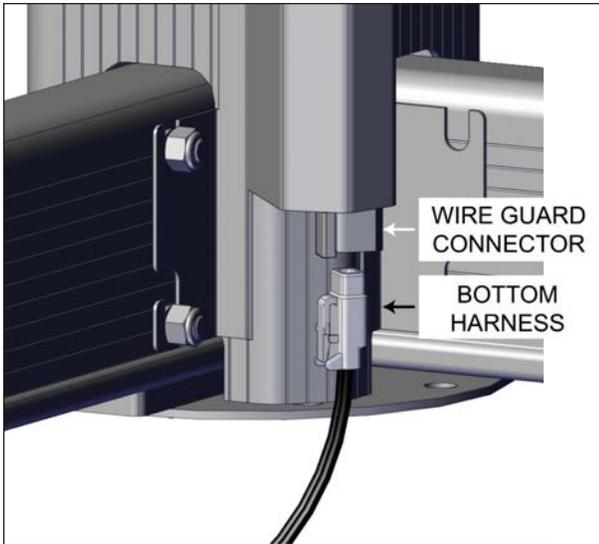

FIGURE 39: WIRE GUARD CONNECTION
12. Connect the bottom harness to the wire guard connector. The bottom harness is attached to the key switch cable. Cut the cable tie that holds the bottom harness. Connect it to the wire guard connector, see Figure 39.